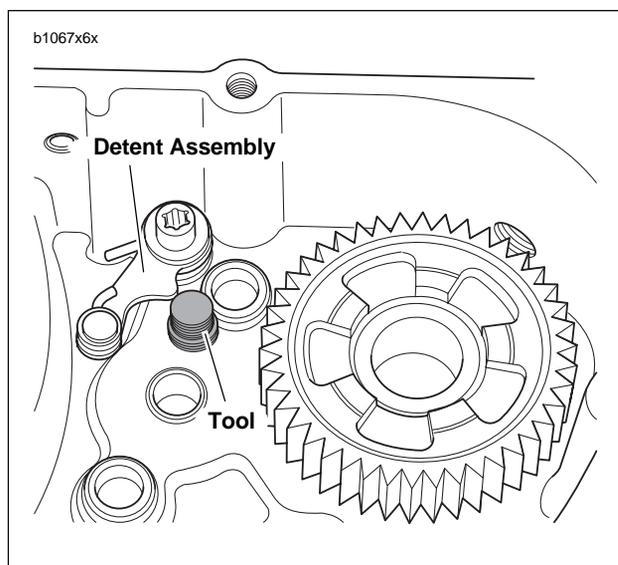

Figure 6-87. Gear Detent Assembly Aid (Part No. B-45520)
2. See Figure 6-87. Retract detent assembly in right case half and install GEAR DETENT ASSEMBLY AID (Part No. B-45520) until it has bottomed in right case half.